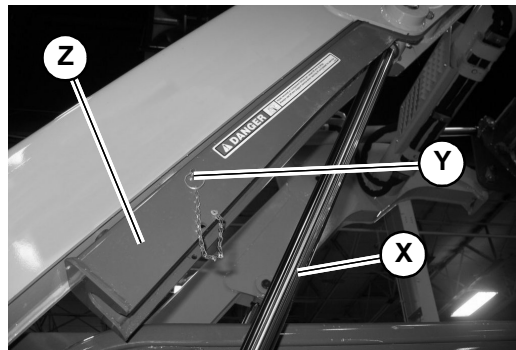
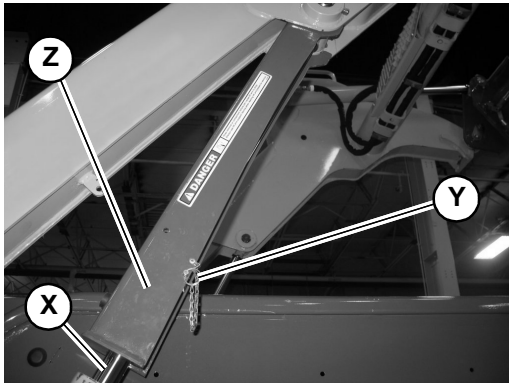

Fig. 57 – Lift Arm Support in Storage Position
Fig. 58 – Lift Arm Support Applied
- a. Remove retaining pin (Y, Fig. 57) securing lift arm support (Z) in the storage position.
- b. Position the lift arm support (Z, Fig. 58) over the lift arm cylinder rod (X, Fig. 57 and Fig. 58).